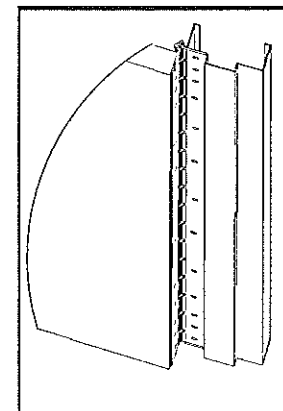

Fig. 3
- Position the door (with hinge attached) at 90° to the frame. Attach the hinge to the frame rabbet (See Fig. 3). For metal frames, use the #12 self-drilling screws provided (recommended driver speed 1,900-2,500 RPM). For wood frames, use optional #12 wood screws.